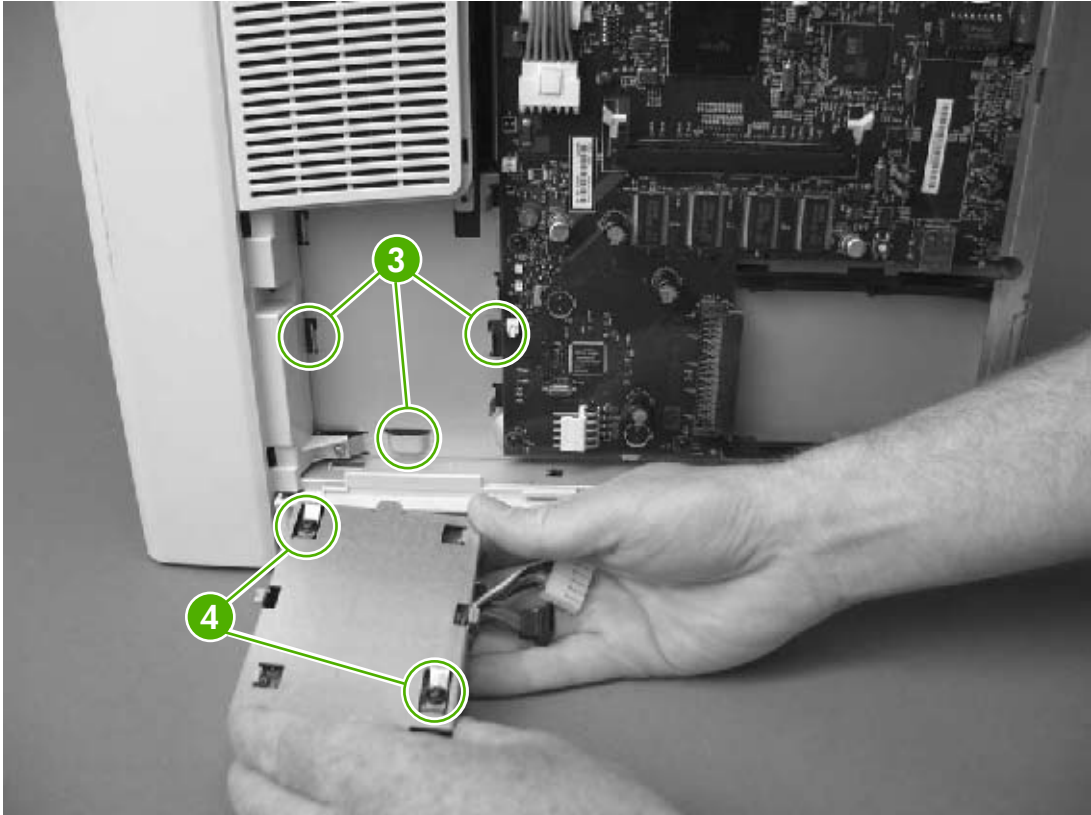

Figure 5-35 Removing the disk drive (2 of 3)
3. Slide the disk drive up slightly to clear three tabs from the tab slots (callout 3 in Figure 5-35 Removing the disk drive \(2 of 3\) on page 114), and then lift the disk drive away from the device.